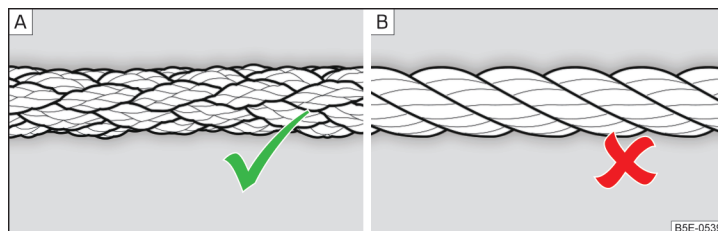

Fig. 168 Braided tow ropes/spiral tow rope
A braided tow rope must be used for towing » Fig. 168 - A.
- Spiral tow ropes must not be used for towing » Fig. 168 - [B], the towing eye may unscrew out of the vehicle - risk of accident.